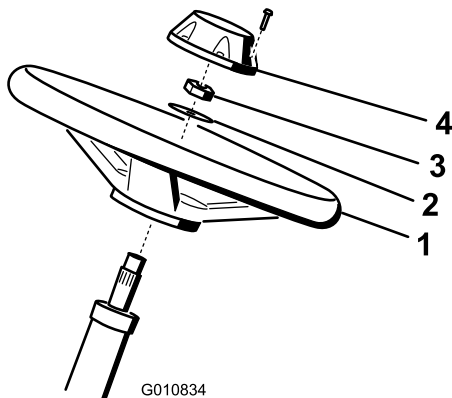

Figure 5
1. Slide the steering wheel onto the steering shaft (Figure 5).
2. Slide the washer onto the steering shaft (Figure 5).
3. Secure the steering wheel to the shaft with a jam nut and tighten it to 27 to 35 N-m (20 to 26 ft-lb) (Figure 5).
4. Install the cap to the steering wheel and secure it with a screw (Figure 5).